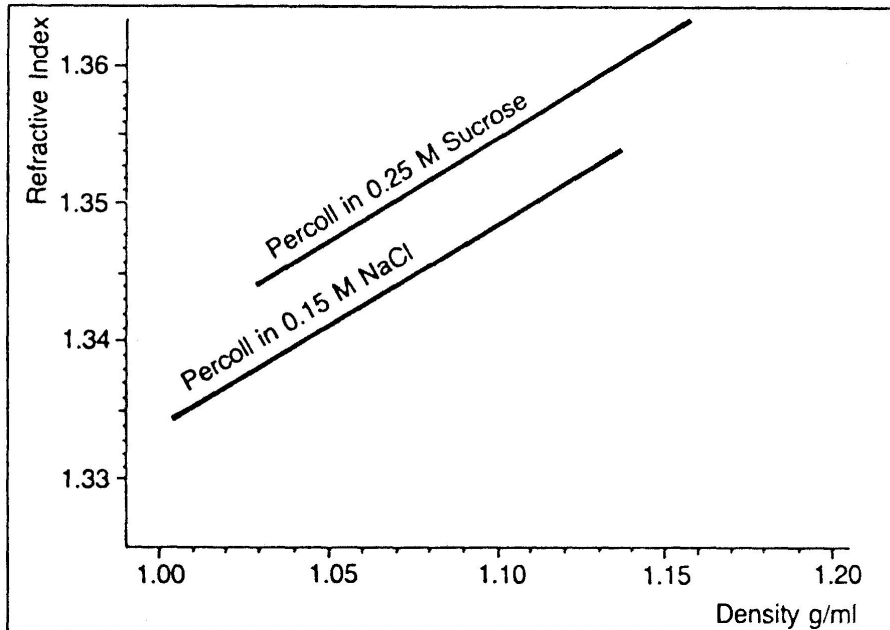

Figure 3. Refractive index as a function of density of a Percoll® gradient. Percoll® adjusted to 340 mOs/Kg H₂O.
2. Measurement of the density of Percoll® solutions after gradient fractionation may be carried out easily using a refractometer. Refractive index has a linear correlation with the density of a Percoll® solution and Figure 3 may be used as a guide to measure the density of Percoll® in 0.15 M NaCl or 0.25 M sucrose.